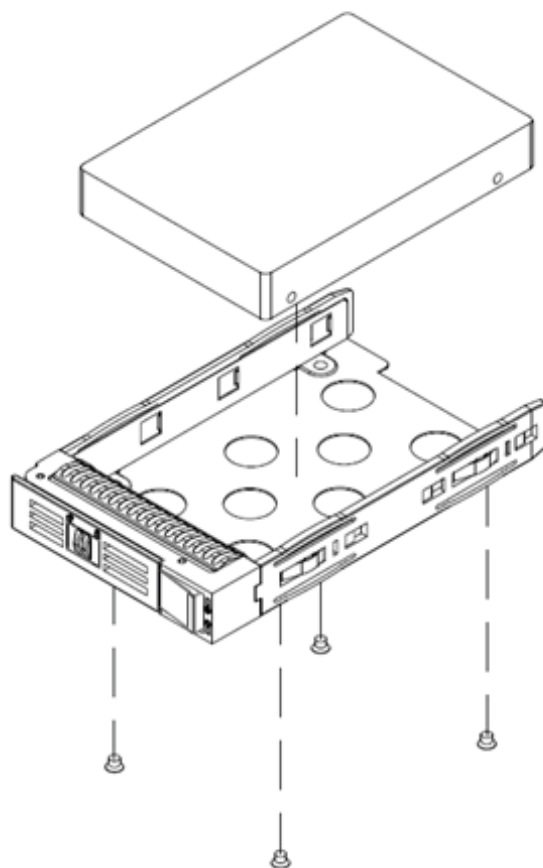

Figure 2.11 Installing a 2.5" HDD/ 安裝 2.5" HDD/ 安裝 2.5" HDD
2. Slide the 2.5" disk drive into the proper location in the tray and fix it with 4 screws (See Figure 2.11).
2. 将 2.5" 硬盘固定于硬盘抽取托盘上并透过锁附四个螺丝固定（如图 2.11 所示）。